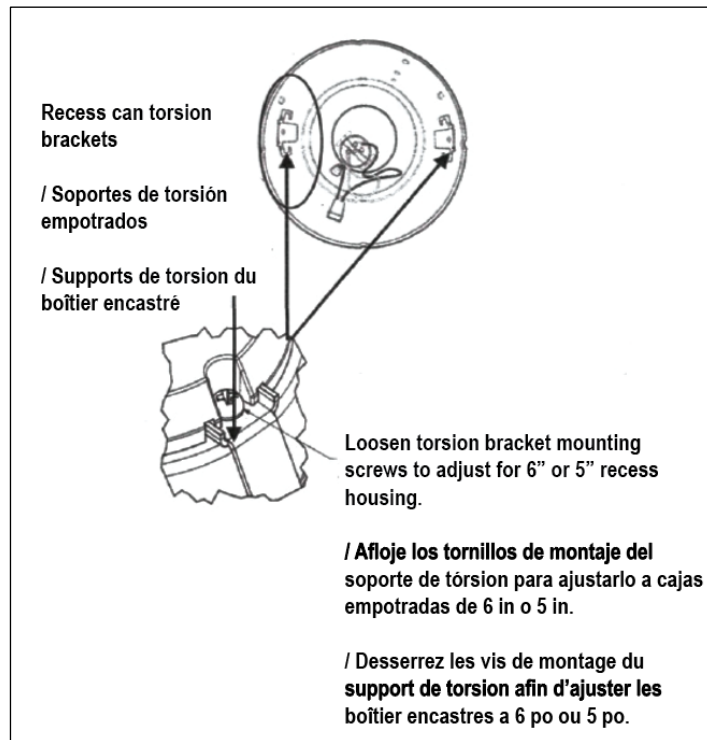

Figure 1
4. If installing into a 5" recessed can, loosen the two Torsion Spring Bracket mounting screws on top of new module (see *Figure 1*) to adjust brackets and torsion springs. Slide brackets inside module to fit and align with a 5" recessed can. If using a 6" recessed can, skip this step.